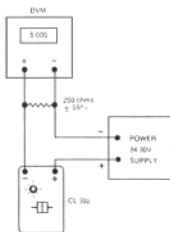

Figure 4-1. Calibration Check
2. Place the 24 to 30 V dc power supply in series with the 250 ohm ($\pm 0.05\%$) resistor and the Simulator which is to be calibrated. The meter will read 1 to 5 volts corresponding to 4-20 mA through the resistor. See Figure 4-1. The LED on the Simulator should be lit, indicating that the connections are correct and that the unit is functioning..